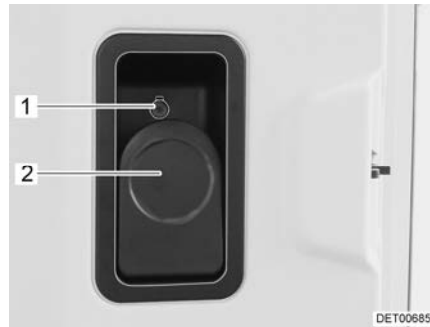

Fig. 53 Door lock (conversion door, inside)
- Opening:** ■ Pull lever (Fig. 53,2).
- Locking:** ■ Push the safety knob (Fig. 53,1) in.